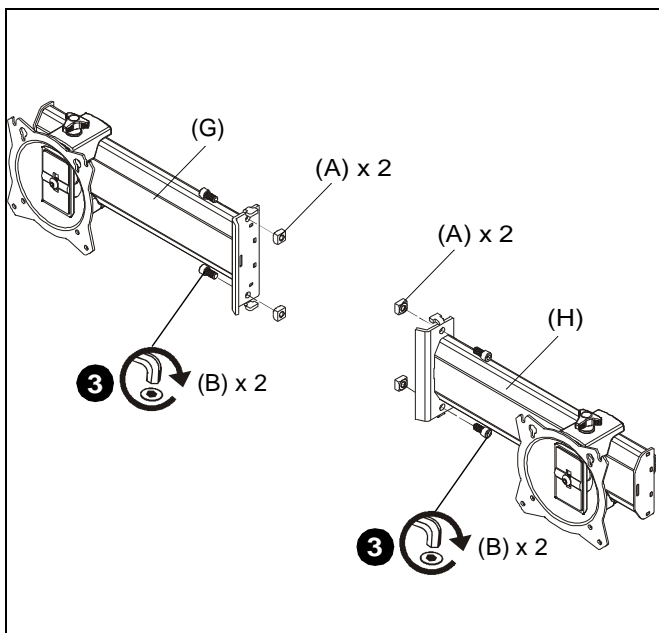

Figure 2
3. Loosely attach two 1/4-20 x 1/2" socket head cap screws (B) and two 1/4-20 square nuts (A) to left and right array arms (G and H). (See Figure 2)